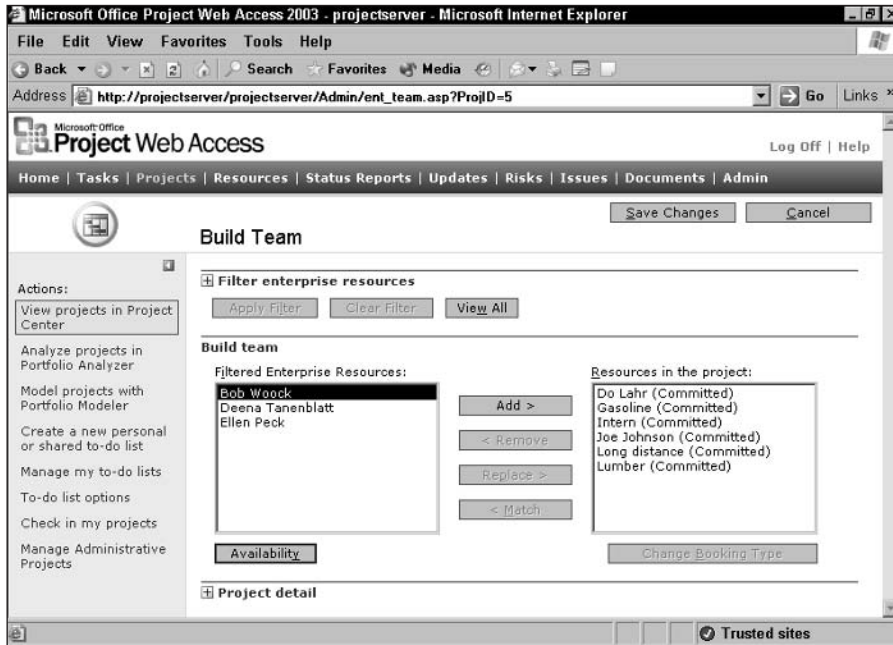
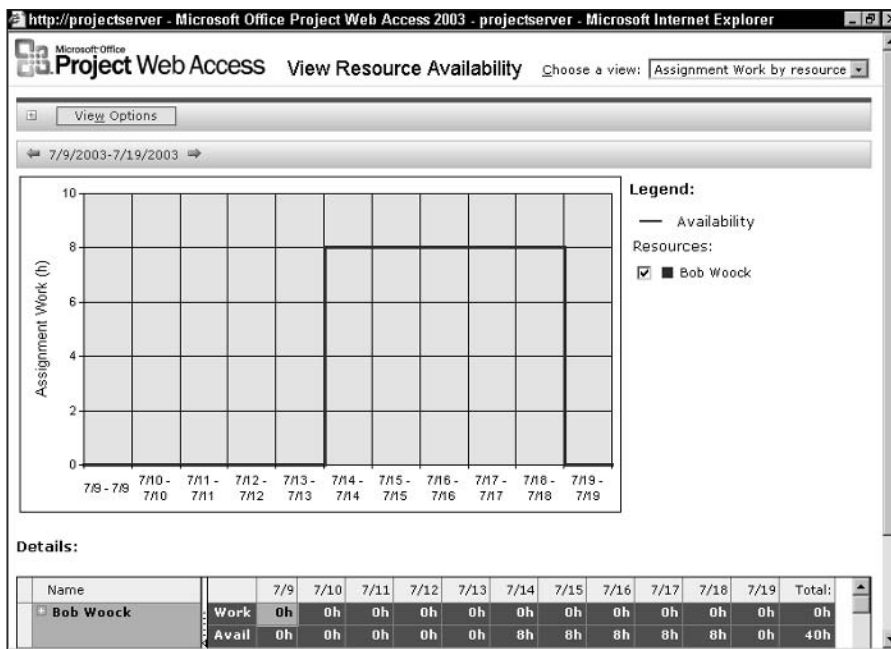

Figure 20-28: Build a team for a project using Project Web Access.
Figure 20-29: The View Resource Availability graph that you see when you click the Availability button.
4. Click the Build Team link. PWA displays a list of resources on the left side of the Build Team page (see Figure 20-28). You only see resources for which you have permission to view within your RBS code. On the right side of this page, you see resources that are already used in your project.
You can view an availability graph of a resource (see Figure 20-29) before you add it to your project. Click the resource in the Filtered Enterprise Resources list, and then click the Availability button (refer to Figure 20-28).